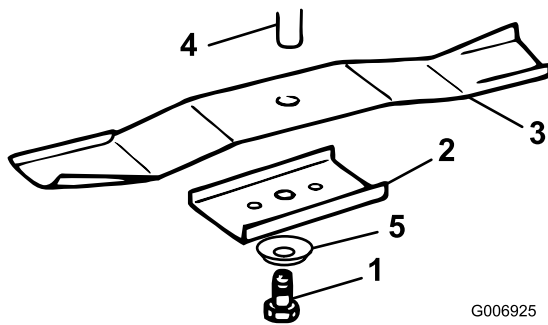

Figure 34
3. Remove the bolt (5/8 inch wrench), curved washer, retainer, and blade (Figure 34). Use a block of wood as a wedge between the blade and the mower to lock the blade when you are removing the bolt.
1. Install each blade, blade retainer, curved washer (cupped side toward blade), and the blade bolt (Figure 34).